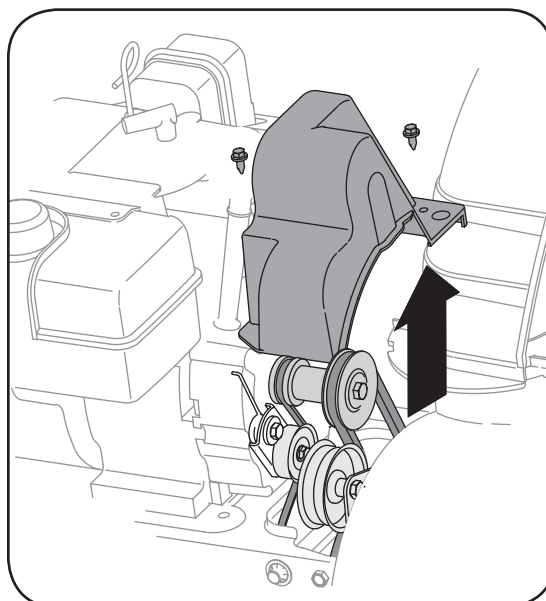

Figure 21
1. Remove belt cover by removing the two self-tapping screws that secure it to the snow thrower housing. See Figure 21.